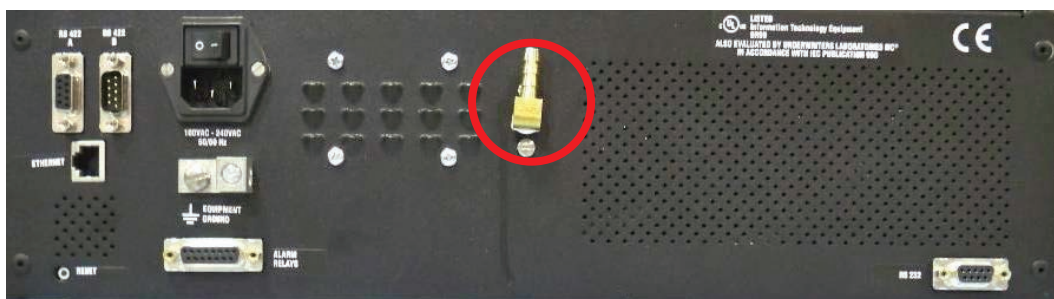

FIGURE 4. ADH NETCOM Rear Panel (with fitting installed).
When connecting an equipment or transmission line to the ADH NETCOM automatic air dehydrator, it is first necessary to install the proper fitting onto the port on the back of the unit. Refer to Figure 4. As described on the Inventory page of this manual, two types of brass fittings are supplied with the unit. They are not interchangeable. The first type, Part Number 18198, connects a 1/8" NPT to a 1/4" barbed fitting. The second type of fitting, Part Number 23428, connects a 1/8" NPT to a 3/8" barbed fitting. Though not required, it is recommended to use the second type of fitting, the one with the 3/8" barbed fitting, on runs longer than one hundred (100) feet or about 30 meters or when using the NETCOM as an input to an ASM®-1 Smart Manifold™ Automated Air Distribution Manifold. Directions for the proper installation of both types of fittings are the same.